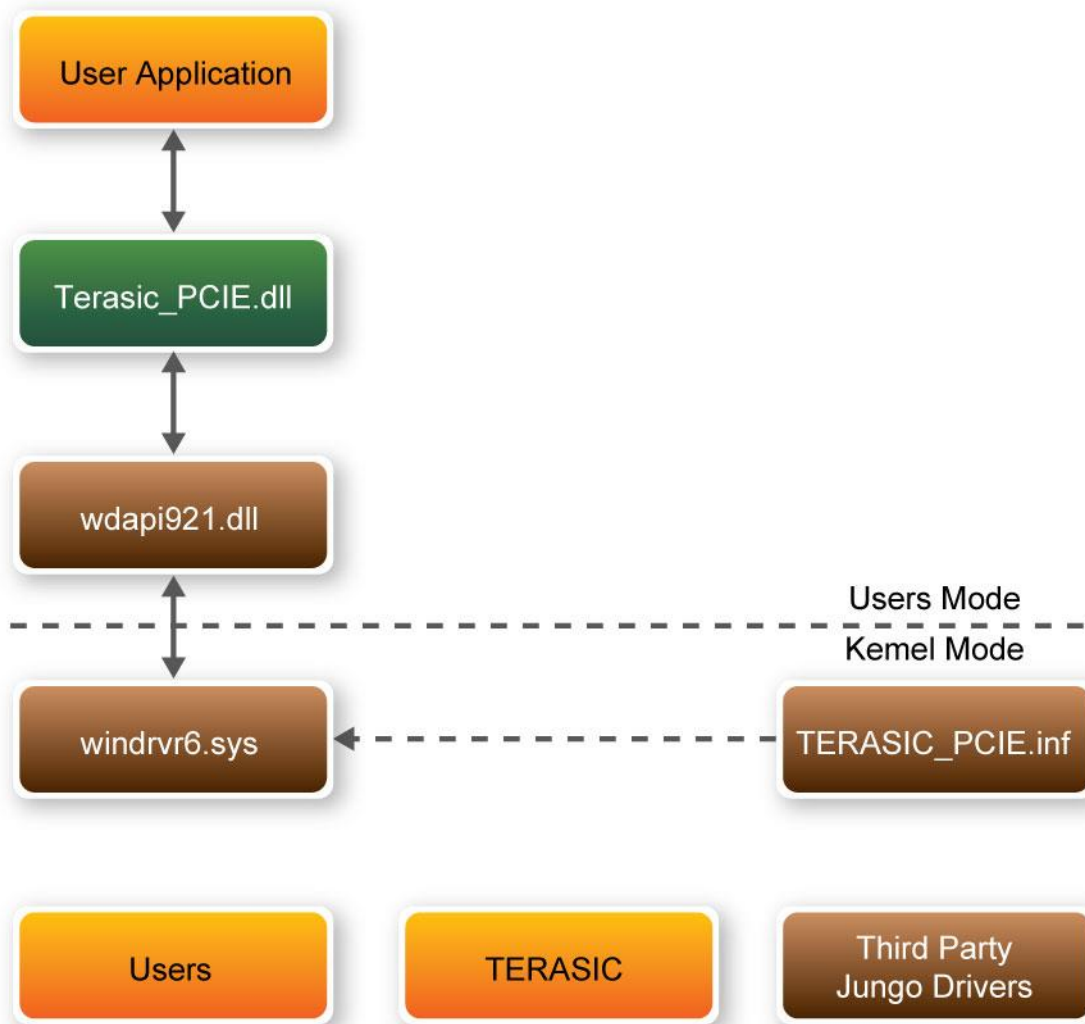

Figure 6-8 PCI Express Software Stack
**Figure 6-8** shows the software stack for the PCI Express application software on 32-bits Windows. The PCI Express driver is incorporated in the DLL library called Terasic\_PCIE.dll. Users can develop their application based on this DLL. In 64-bits Windows, Terasic\_PCIE.dll is replaced by Terasic\_PCIEx64.dll, and wdapi921.dll is replaced by wdapi1100.dll.